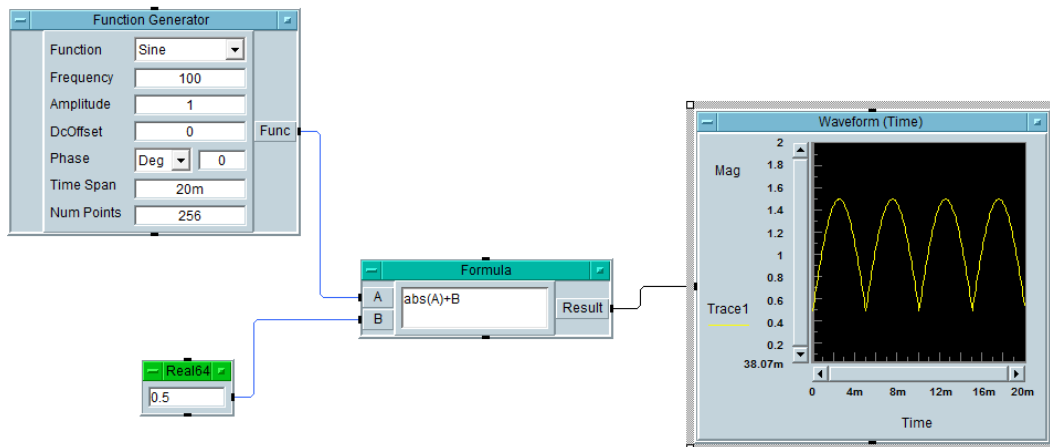

Fig. 20. Displaying the result of the Formula object
- Connect the data out pin of the Formula object (**Result**) to the data input pin of **Waveform (Time)** and run the program. You will observe a waveform as in Fig. 20.